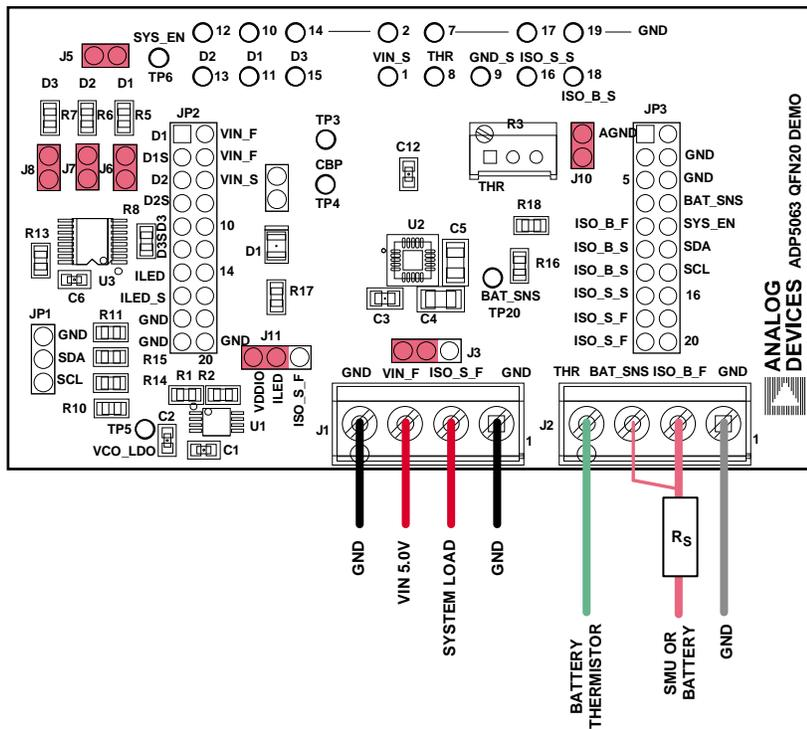

Figure 5. ADP5063 LFCSP Demo Board Typical Operation Setup
The **ADP5063** fast charge constant voltage (CV) regulation is optimized for batteries with series resistance in the 100 m $\Omega$  to 250 m $\Omega$  range. When using a SMU or a battery simulator connected to the  $ISO\_Bx$ , set the series resistance ( $R_s$  in Figure 5) within this range.
The THR input of the ADP5063 evaluation board is equipped with the 50 k $\Omega$  trimmer resistor (R3) and Jumper J10. When using an actual Li-Ion NTC thermistor terminal, configure the board according to Figure 5.